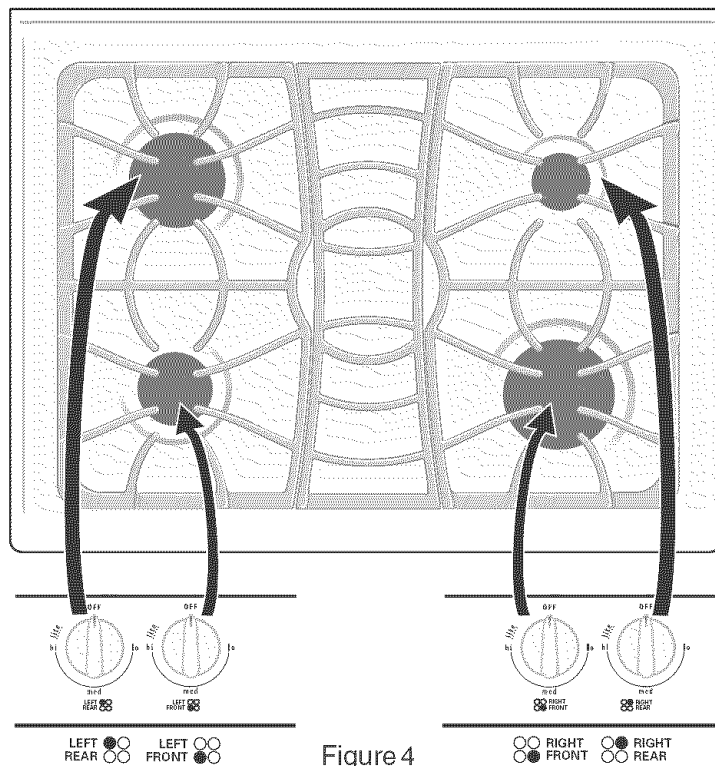

Figure 4
The small **SIMMER** burner is best used for simmering delicate sauces, etc. This burner is located at the right rear burner position on the cooktop (see Figure 4).
The **STANDARD** burner can be used for most surface cooking needs. The 2 burners are located at the left front position on the cooktop (see Figure 4).
The **POWER** burners are best used for bringing large quantities of liquid rapidly up to temperature or when preparing larger quantities of food. The 2 **POWER** burners are located at the right front and left rear burner positions on the cooktop (see Figure 4).
1. Touch the  pad at the Warm & Serve Drawer control position (see Figure 4). The Warm & Serve Drawer indicator light will flash. Note: If no further pads are touched within 25 seconds the request to power the Warm & Serve Drawer ON will clear.